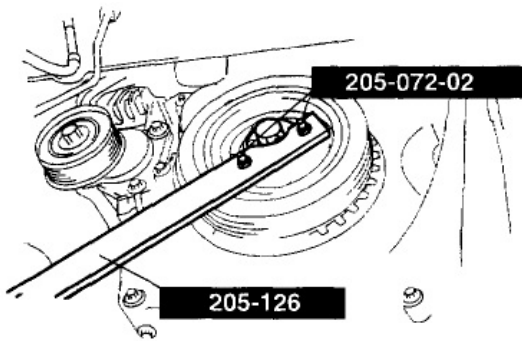

Figure 3. Crankshaft Holding Tools
5. Hold the crankshaft pulley using the service tools shown in Figure 3.